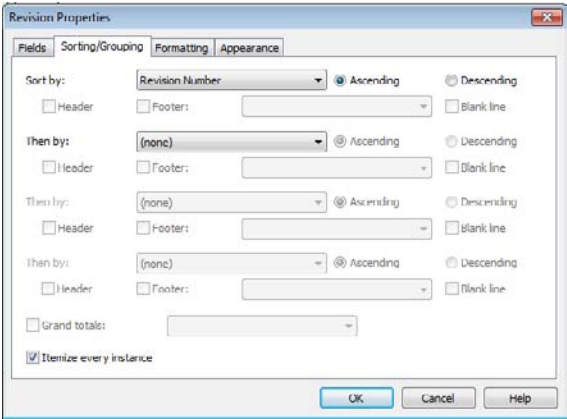

Figure 14.13
- 5. Click the Sorting/Grouping tab. Here, you can use parameters to sort/group your schedules. In this example, you will sort by revision number to keep your revisions organized. As shown in Figure 14.13, in the drop-down field next to Sort By, select Revision Number.